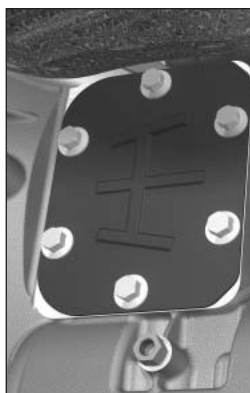

Figure 46
4. Remove the PTO aperture cover plate and gasket (**Fig. 46 & 46a**). **DO NOT** Discard the gasket. It will be used when installing the adapter on the transmission.